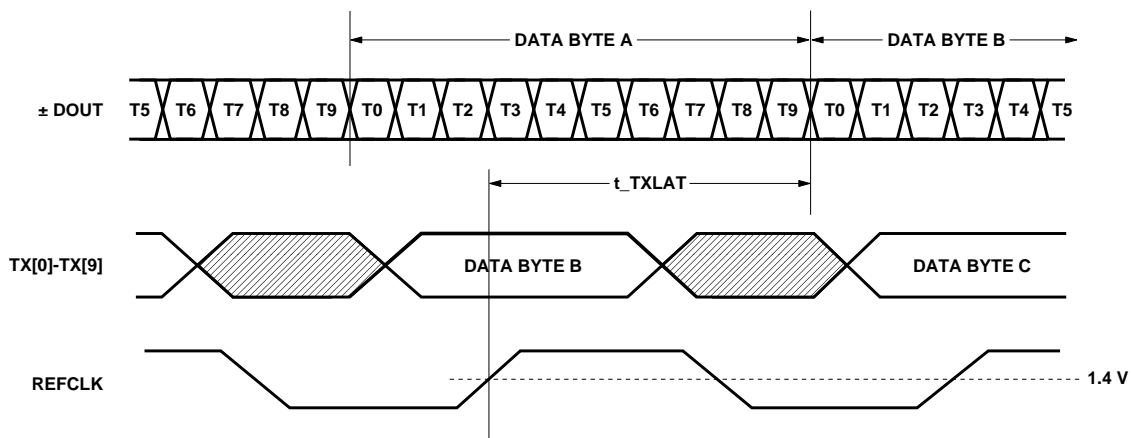

Figure 4. Transmitter Latency.
- The transmitter latency, as shown in Figure 4, is defined as the time between the latching in of the parallel data word (as triggered by the rising edge of the transmit byte clock, REFCLK) and the transmission of the first serial bit of that parallel word (defined by the rising edge of the first bit transmitted).